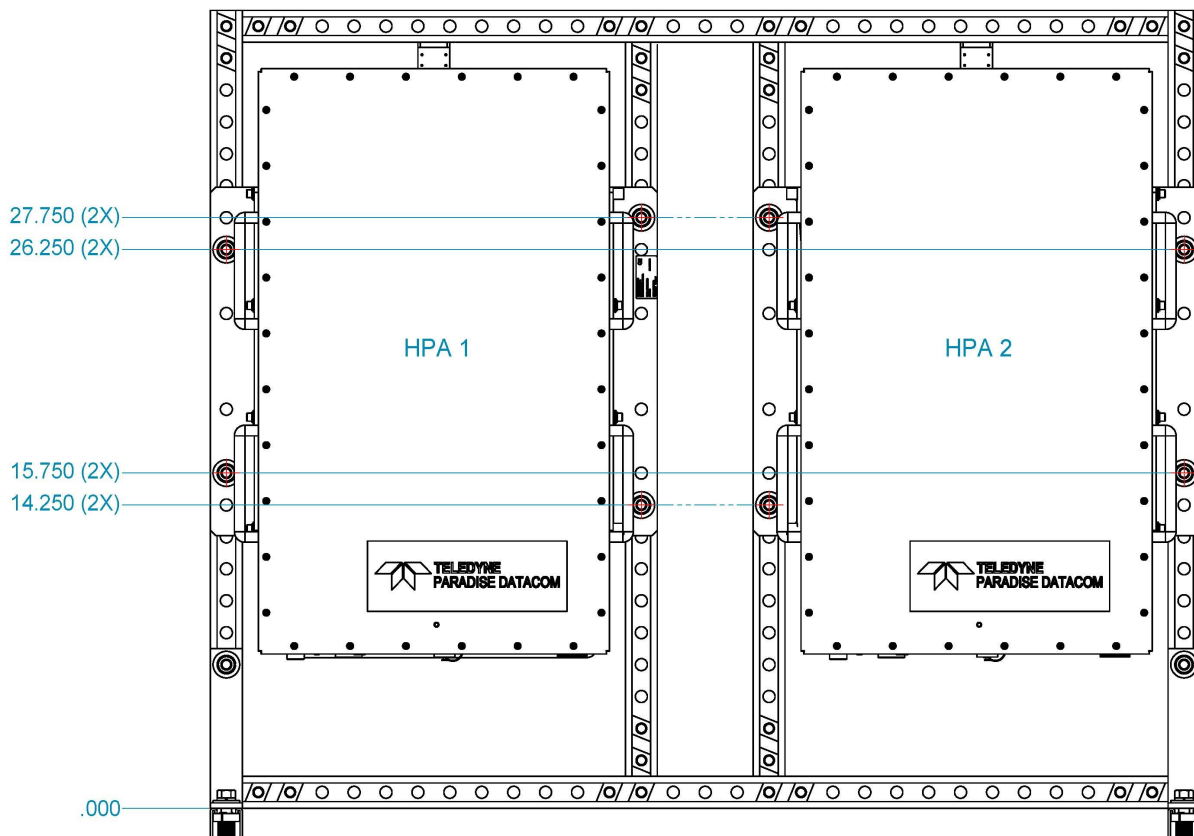

Figure 3-4: Mount HPAs to Frame
The HPAs will be mounted to the open channel side of the uni-strut frame. Mounting hardware is provided with the amplifiers. See **Figure 3-4**.
1. Insert a 1/2-13x2.75 hex bolt with 1/2" flat washer through the flat side of the uni-strut frame at the positions shown in **Figure 3-4** and through the mounting bracket of the HPAs.